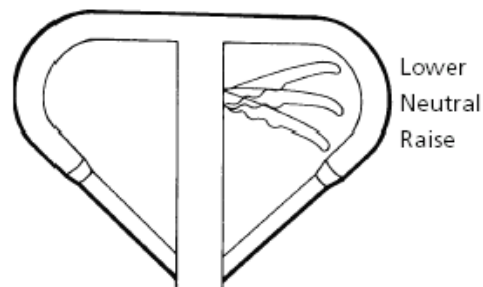

Figure 1 Control Lever
The control lever, located on the right side of the handle, has three operating positions (See figure 1).
1. Push the control lever (fig 1) down to the "Raise" position. When the control lever is in the "Raise" position and the handle is "pumped" up and down the pallet truck forks should rise. If the forks do not rise, first loosen the lock nut (D134 fig 4) and then loosen the set screw (D133 fig 4) CCW 1/2 turn and retry the fork operation. Continue adjusting until satisfactory operation is obtained. Then tighten lock nut.
3. Squeeze the control lever (fig 1) to lower the pallet truck forks. When the forks are in a raised position and the control lever is squeezed the forks should slowly lower down. If the forks do not lower, first loosen the lock nut and then tighten the setscrew CW 1/2 turn and retry the fork operation. Continue adjusting until the forks lower when the control lever is squeezed.
The three position control lever is operated as follows (see Figure 1):